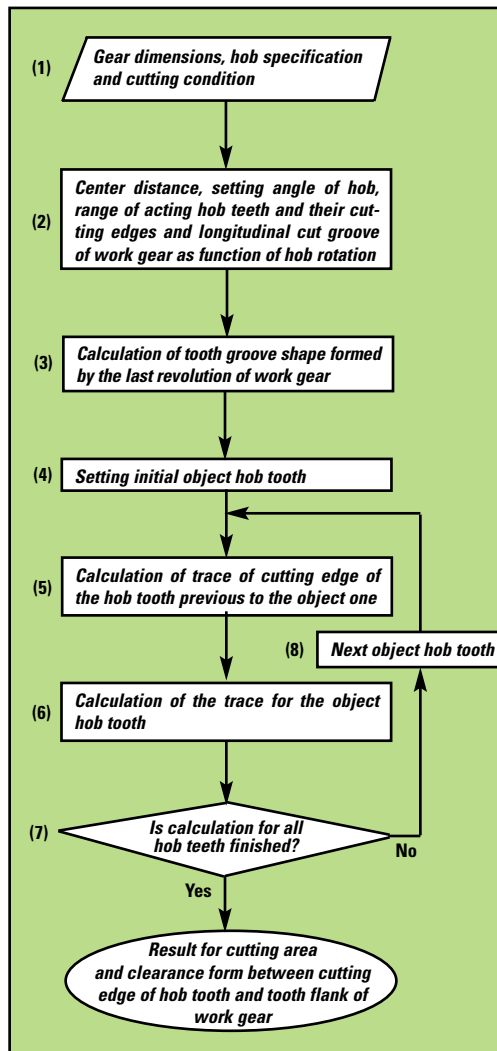

Figure 11—Flow chart for calculating the trace of a hob's cutting edge.
Figure 11 shows the procedure to calculate the trace of a hob cutting edge. In step (2), fundamental quantities—such as center distance, hob set angle, range of acting hob tooth and axial cutting range of work gear during a hob rotation—are calculated. The tooth groove shape formed before the last revolution of the work gear is calculated in step (3). That shape is formed by traces of all cutting edges acting in that process. For a definite hob cutting edge, the trace of the previously acting hob cutting edge and that of the object cutting edge are calculated in step (5) and (6). This procedure is repeated for each hob tooth's cutting edge.